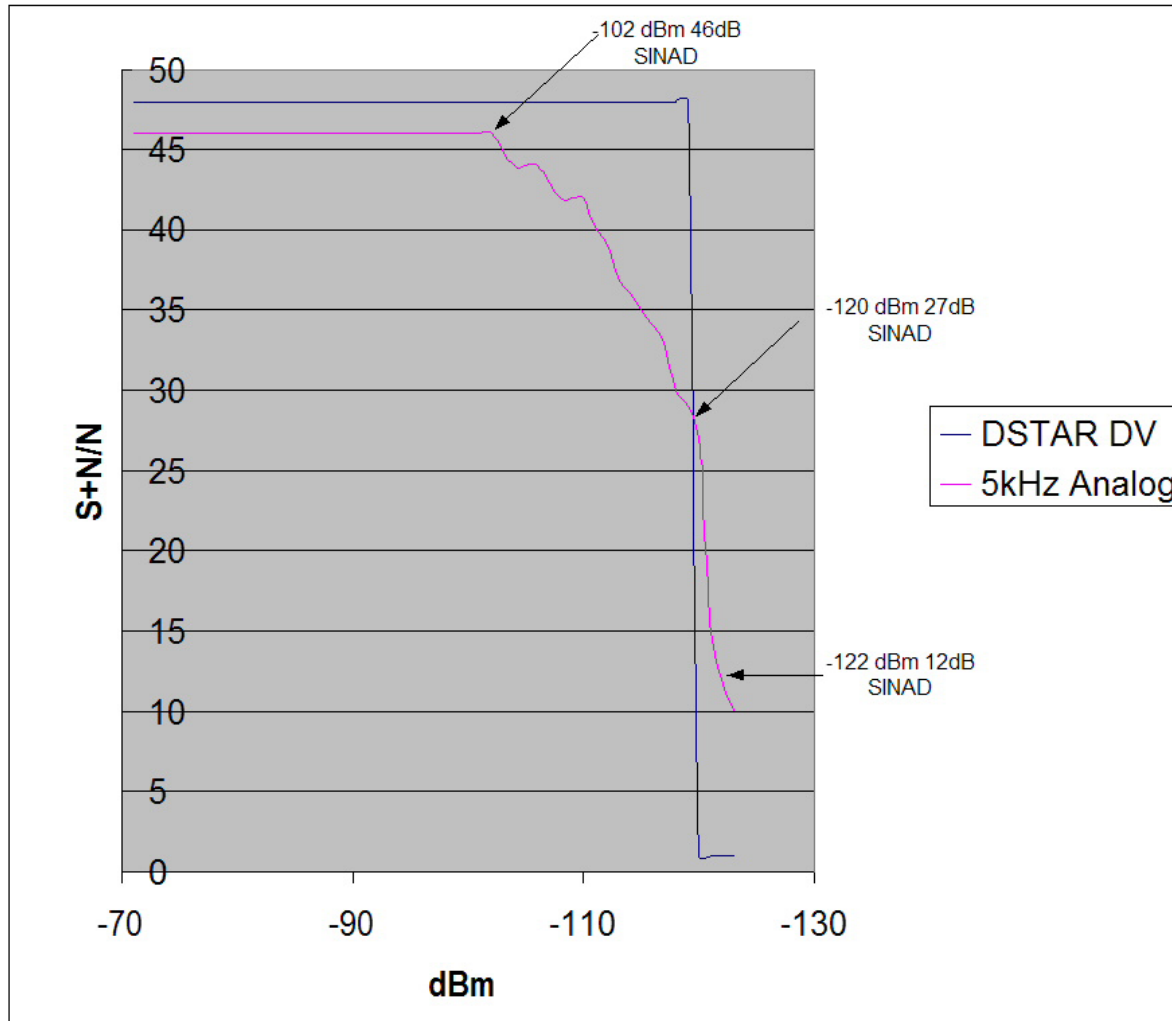

FIGURE 1 DSTAR VS. ANALOG FM SENSITIVITY
With digital signals SINAD is not a good measurement of sensitivity, because typically the SINAD of a digital receiver is quite high until a certain point where the audio signal disappears. There is no gradual falling off of the signal like there is with analog signals. Figure 1 shows the results of sensitivity tests performed on an ID-800. The ID-800 in wide FM mode is intended for FM transmissions with a 3 to 5 kHz deviation. At the -102 dBm point the analog FM receiver is at its highest SINAD. The 12 dB SINAD of this receiver occurs at -122 dBm. In Digital Voice mode (DV) the signal drops off at -120dBm. This means that the analog FM receiver is about 3 dB better in sensitivity than the DV receiver. 12dB SINAD signals are typically considered difficult copy. What we consider to be a full quieting FM signal is one where the SINAD is nearly 30 dB. The 27 dB SINAD point in Figure 1 occurs when the DV signal stops or